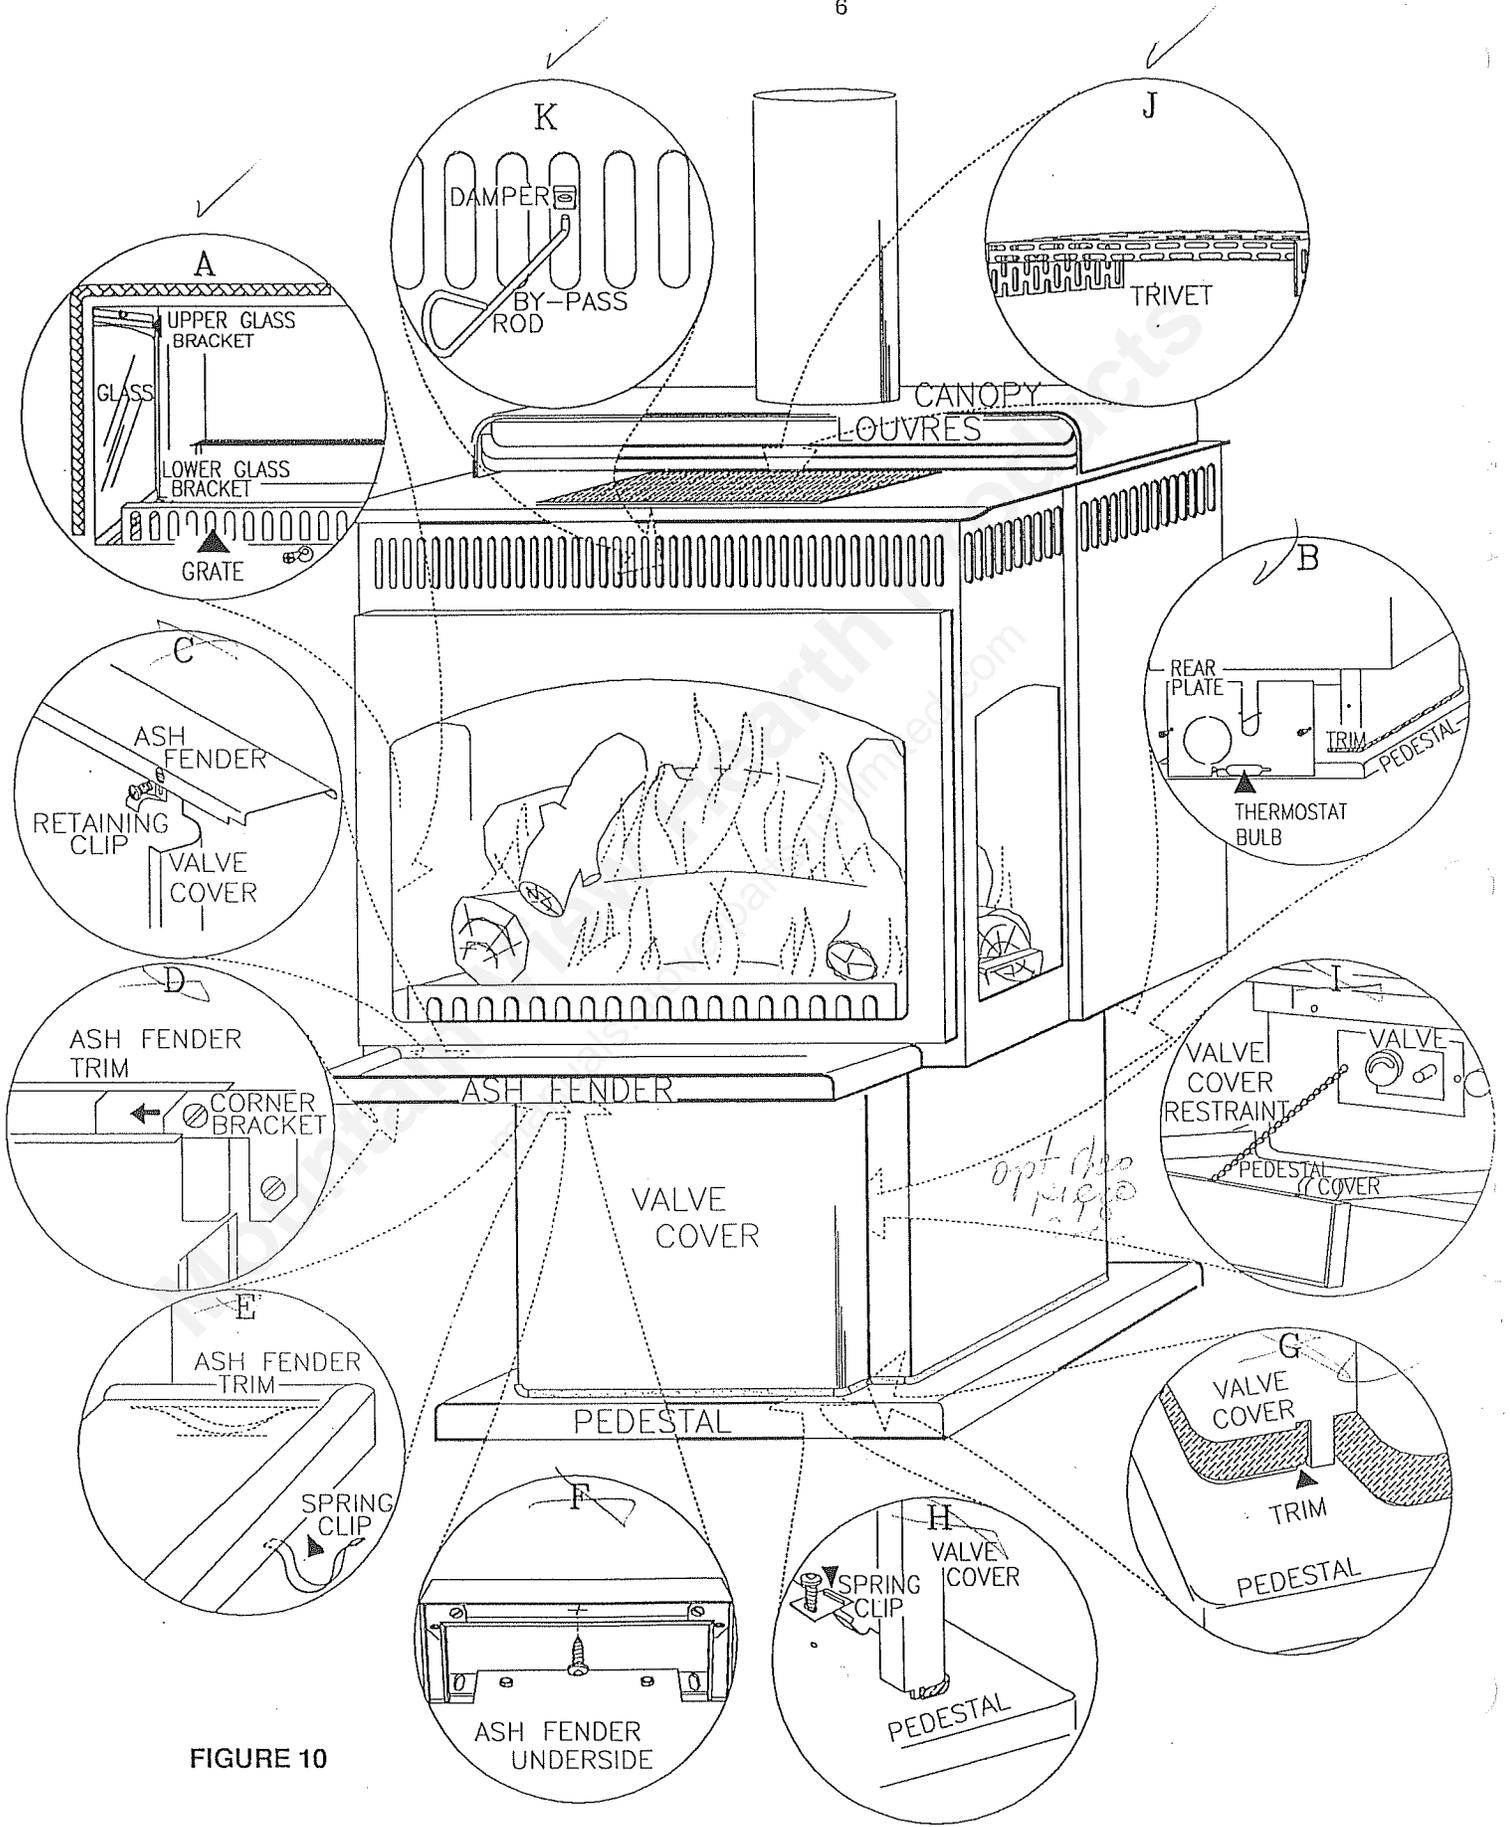

FIGURE 10
## 10. FINISHING YOUR STOVE (FIGURE 10)
**SIDE WINDOWS:** To install the side windows, remove the upper and lower glass brackets. Position the glass and replace the brackets. FIGURE 10(A).
**GRATE:** Secure grate centrally to burner using a #8x1/2" screw. The hole located below the middle of the door opening provides access for your screw driver or socket wrench. FIGURE 10(A).
**PEDESTAL TRIM:** Remove the rear plate, making sure not to damage the thermostat bulb or to crimp the tubing. Ensure that the pedestal surfaces are clean and dry; peel the protective backing from the trim adhesive and pressing firmly, attach the brass trim to the pedestal where the three sides and the base meet. Start at one end and proceed around the pedestal. Cut trim to size and retain remainder for use on the valve cover. Attach the rear plate as shown trapping the trim between the plate and the pedestal. FIGURE 10(B).
**ASH FENDER:** Door must be installed before ash fender/valve cover assembly can be made functional. Screw the ash fender and retaining clip as shown to the valve cover using 2 #8 screws and nuts. FIGURE 10(C).
**ASH FENDER TRIM:** The three pieces of trim are assembled in the same manner as a picture frame. Place the corner brackets (with screw loosened) into the trim sections. FIGURE 10(D). Tighten the screw spreading the two pieces apart. Attach the adjoining section. Repeat with the opposite side. Tighten all screws firmly. Slide onto the outside edge of the ash fender. Insert a spring clip centered into the underside portion of each piece of trim. FIGURE 10(E). Run a self-drilling #6 x 3/8" screw, centered, into the groove located in the underside of the front trim, just behind the front lip of the ash fender. This will prevent the trim being pulled off while opening or closing the valve cover. FIGURE 10(F).
**VALVE COVER TRIM:** Make sure of a clean and dry surface and as before, peel off the backing from the trim adhesive. Insert one end of the brass trim into one of the slots located in the valve cover and pressing firmly, proceed around to the other slot. Cut trim to size. FIGURE 10(G).
**VALVE COVER:** Attach a spring clip to each of the two tabs located on the lower inside edge of the valve cover. Tilting the valve cover slightly towards you, locate the spring clip hole over the corresponding hole in the pedestal base and secure using the two #8 screws. FIGURE 10(H).
**VALVE COVER RESTRAINT:** Attach one end of the restraint to the valve cover plate using the screw to the left of the valve. The other end is fastened to the center hole at the top of the pedestal cover using a machine screw and nut. FIGURE 10(I). *ADJUST RETAINING CLIPS (FIG. 10 I) IN ORDER TO PROPERLY SECURE VALVE COVER IN CLOSED POSITION.*
**ORNAMENTAL TRIVET:** Insert trivet into the space on the stove top. FIGURE 10(J).
The summer by-pass damper has been designed for those days in spring, summer or early fall, when you wish to enjoy the atmosphere of a fire without producing excessive heat. Using the by-pass rod (supplied), reach through the upper decorative slots and hooking onto the damper, pull towards you to by-pass the heat exchanger FIGURE 10(K). For maximum heat output, close damper fully.
The fireplace gas valve is controlled and modulated using a thermostat bulb located on the knockout plate at the rear of the pedestal. FIGURE 10(1). On cold start-ups, the main burner will come on at maximum input rate. As the room temperature rises and nears the point that is set on the gas knob, the input (flames) will modulate (reduce gradually) to the minimum input rate. Gas input remains at this level until the set point is reached; at this time the main burner will completely shut off. When the room temperature drops a few degrees, the main burner will re-ignite at a reduced input rate. For full view of the fireplace flames, set the gas knob to "HI".